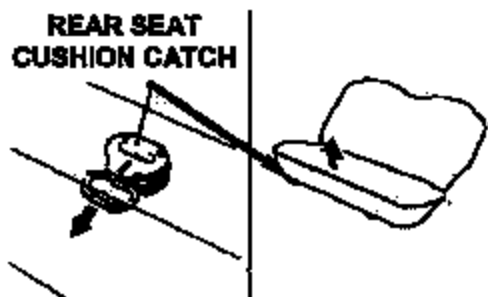

Figure 2
6. Pull the two (2) rear seat cushion catches to release the rear seat cushion and then remove the rear seat cushion (Figure 2).
23. Install the rear seat cushion (Figure 2). Be sure to insert the seat belt buckle assemblies through the cushion openings. Pull up on the front of the cushion to ensure that the catches are fastened.